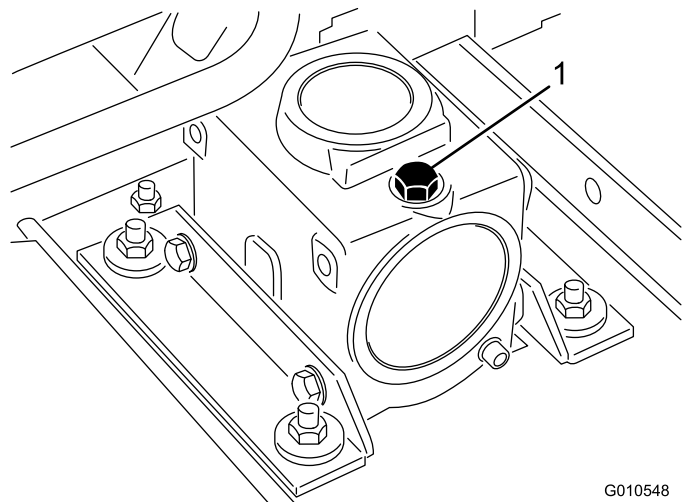

Figure 23
2. Position the machine and cutting unit on a level surface and lower the cutting unit. Remove the dipstick/fill plug from the top of the gear box (Figure 23) and make sure that the lubricant is between the marks on the dipstick. If the lubricant level is low, add SAE 80-90 wt. gear lube until the level is between the marks. The gear box capacity is 283 ml (12 ounces).